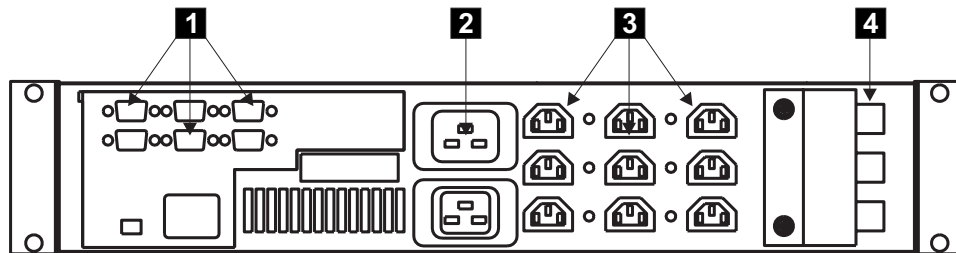

Figure 228. 2145 uninterruptible power supply (rear view)
2. At the back of the 2145 UPS (Figure 228), disconnect the power cables of the SAN Volume Controller **3**.
3. Disconnect the signal cables (**1** in Figure 228).
4. Disconnect the main power cable (**2** in Figure 228).